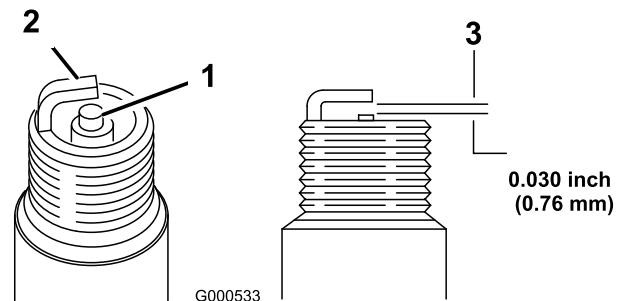

Figure 33
1. Look at the center of the spark plug (Figure 33). If you see light brown or gray on the insulator, the engine is operating properly. A black coating on the insulator usually means the air cleaner is dirty.
2. Check the gap between the center and side electrodes (Figure 33). Bend the side electrode (Figure 33) if the gap is not correct.